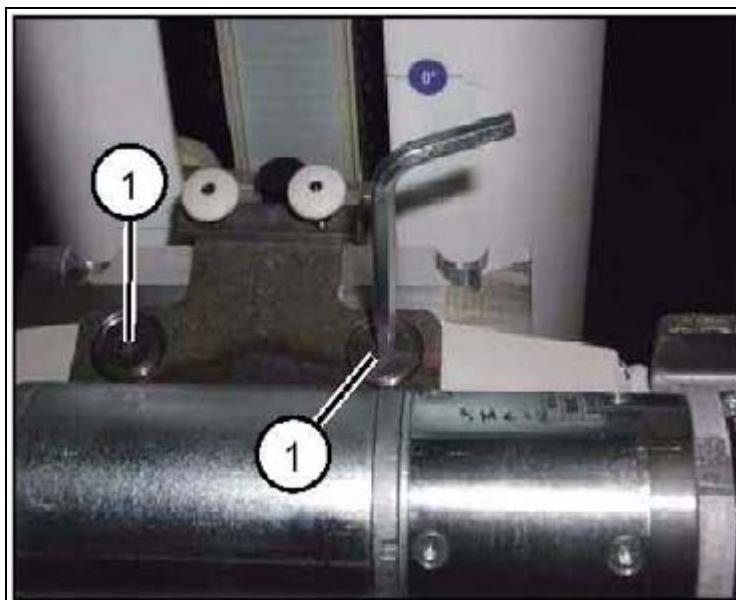

Fig. 31: Orbital motor 2
3. Loosen the 2 fastening screws of the mounting plate (incl. motor) (1/Fig. 31 / p. 73).